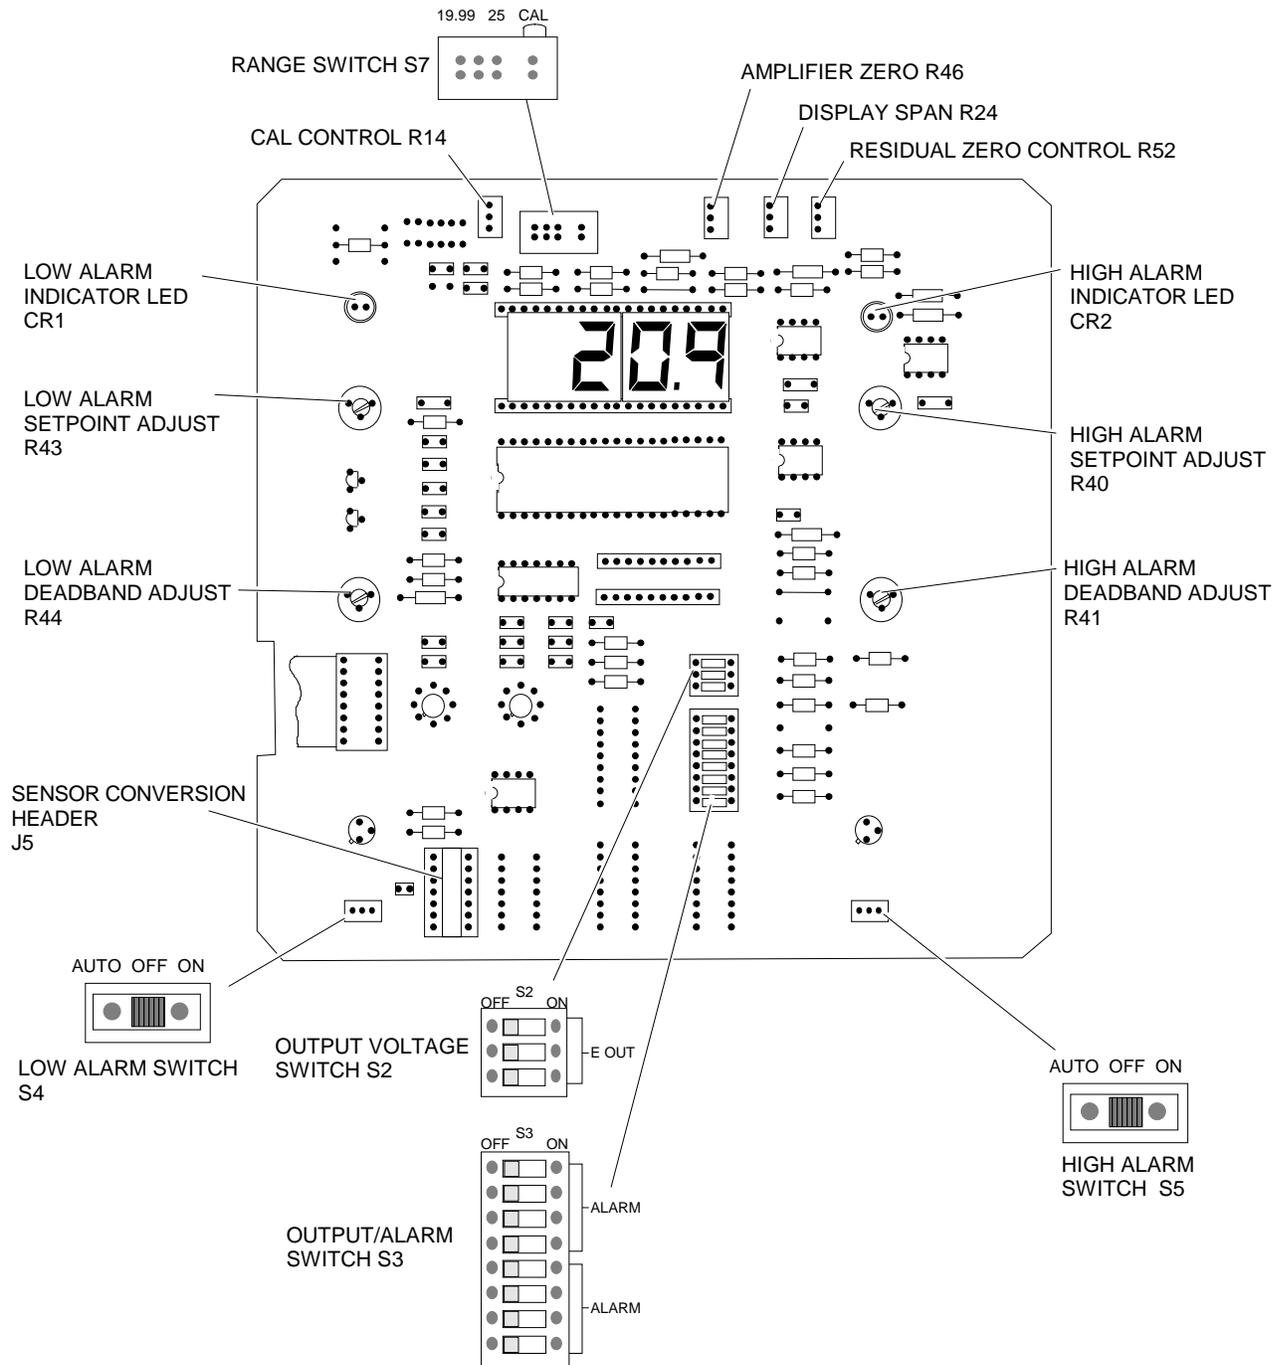

Figure 3-1. Display Board
Prior to startup and calibration, familiarization with Figure 3-1 is recommended. This figure gives locations and brief descriptions of operating controls and adjustments on the display board.
1. On the Display Board (refer to diagram inside door and Figure 3-1):
1. On the Display Board (Figure 3-1), set RANGE switch S7 to CAL position.
3. Turn power ON. On the Display Board (Figure 3-1), adjust residual ZERO control R52 until potentiometric output device indicates 0 volt.